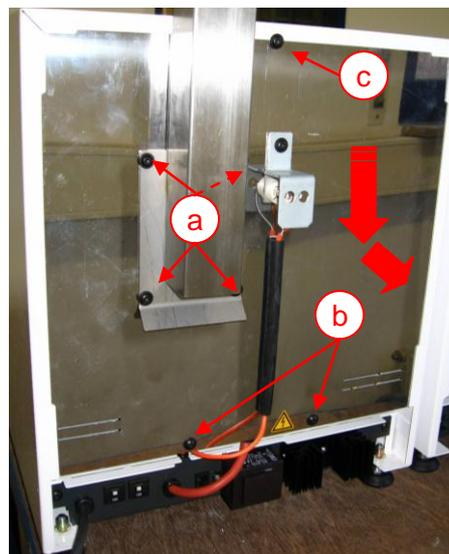

Fig. 29 – rear wall
- First remove the flue by removing the 4 screws (Fig. 29 a)
- Remove the rear wall by unscrewing the screws (Fig 29 b) and loosening the upper screw (fig. 29 c)